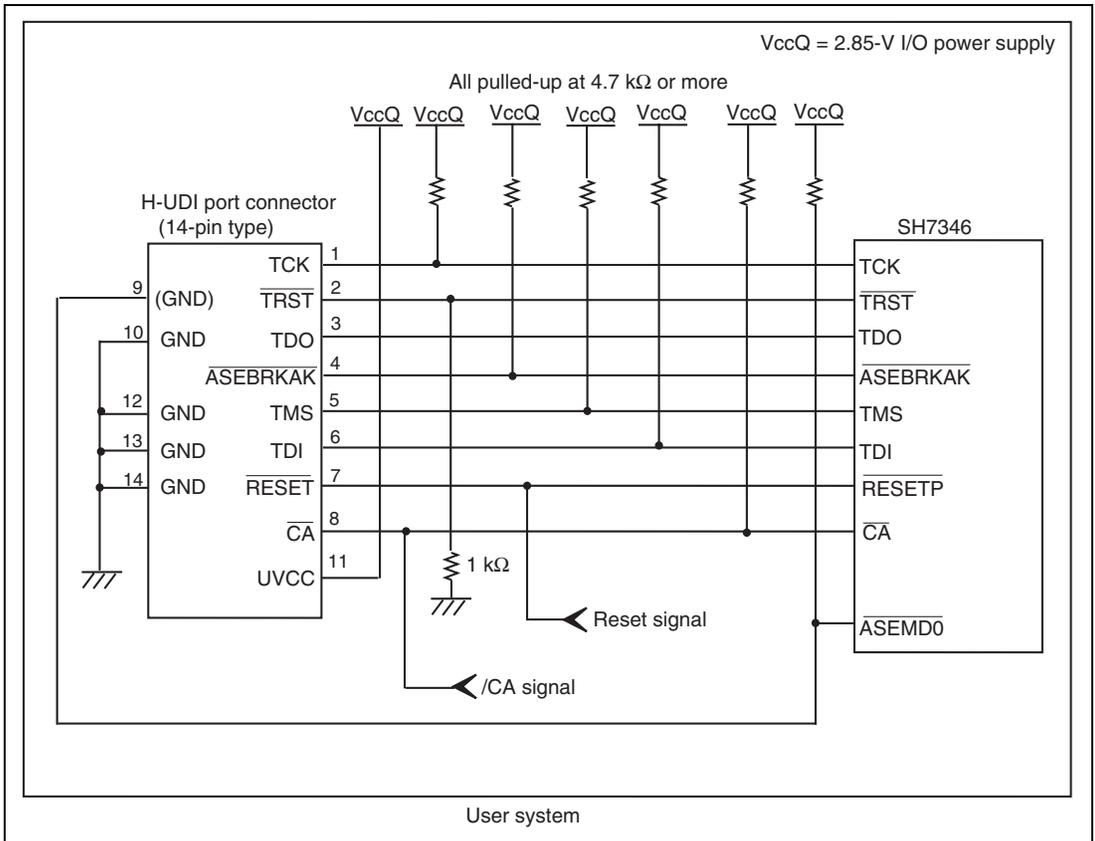

Figure 1.4 Recommended Circuit for Connection between the H-UDI Port Connector and MPU when the Emulator is in Use (14-Pin Type UVCC Connected)
Figure 1.4 shows a recommended circuit for connection between the H-UDI and AUD port connectors (14 pins) and the MPU when the emulator is in use.
- (1) When the emulator is used: /ASEMD0 = 0
- (2) When the emulator is not used: /ASEMD0 = 1Figure 1.4 shows an example of a circuit that allow the /ASEMD0 pin to be GND (0) whenever the emulator is connected by using the user system interface cable. When the /ASEMD0 pin is changed by switches, etc., ground pin 9. Do not connect this pin to the /ASEMD0 pin.
8. Since the H-UDI and the AUD of the MPU operate with the VccQ, supply only the VccQ to the UVCC pin. Make the emulator's switch settings so that the VccQ will be supplied (SW2 = 1 and SW3 = 1) (as shown in figure 1.4).
9. The resistance values shown in figure 1.4 are reference.
When the circuit is connected as shown in figure 1.4, the switches of the emulator are set as SW2 = 1 and SW3 = 1. For details, refer to section 3.8, Setting the DIP Switches, in the SuperH™ Family E10A-USB Emulator User's Manual.